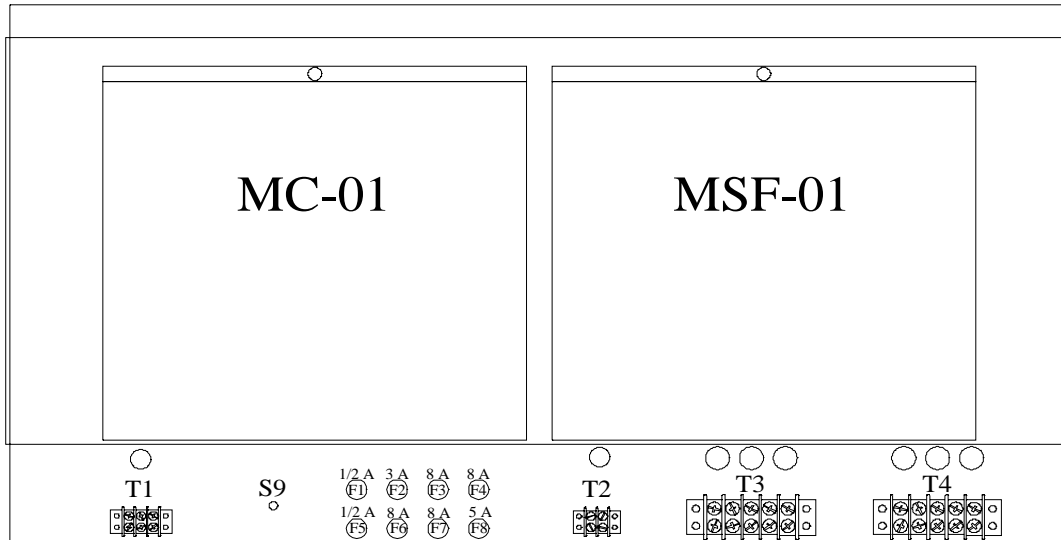

Figure 7 Access Panel Removed
2. Figure 7 shows the view behind the access panel. Feed the power cables through one of the holes in the plate below the access panel.